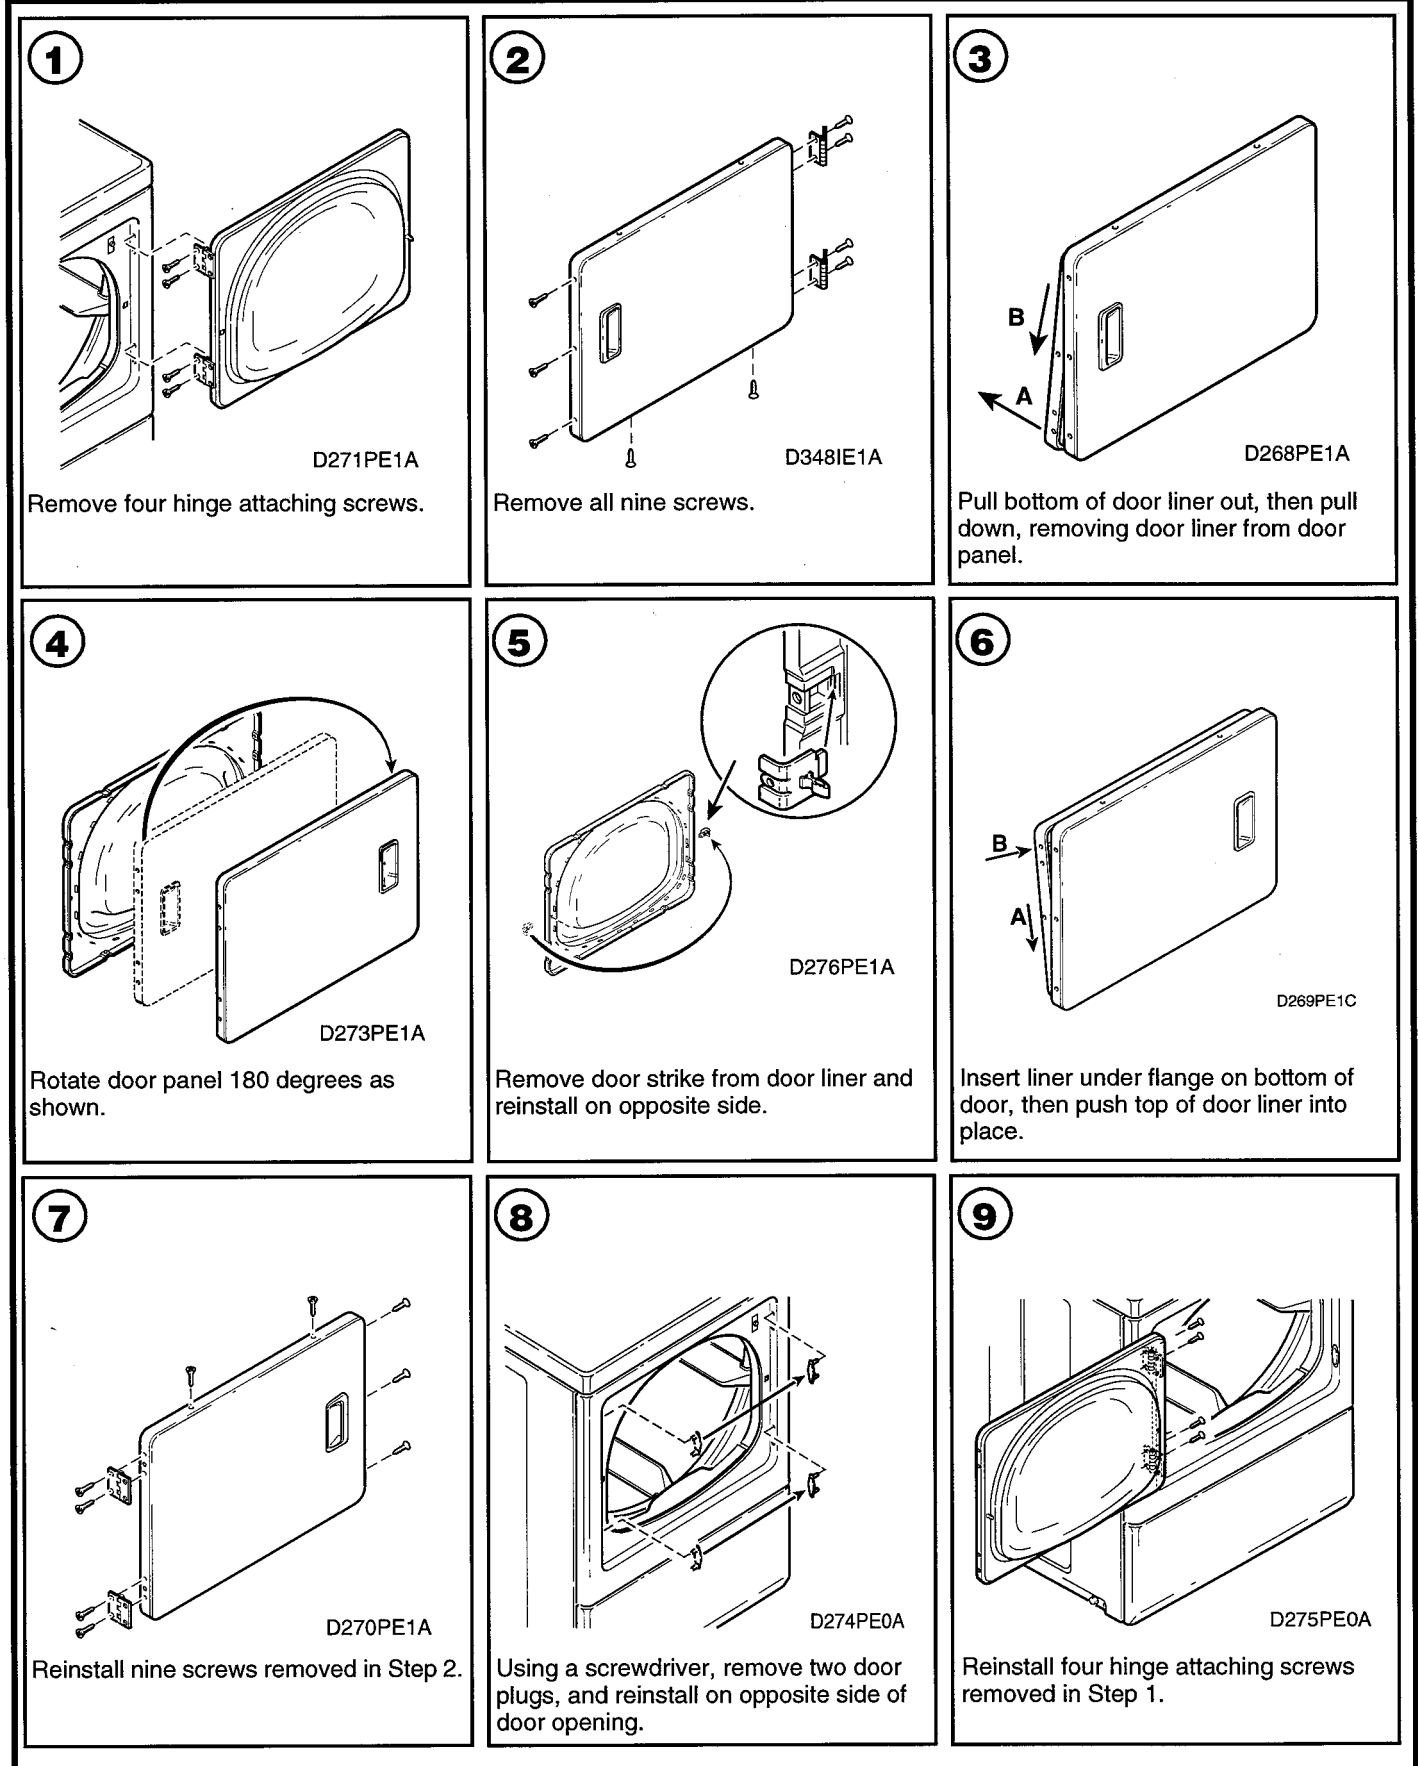

Figure 5-4
- Carefully remove door pull. See figure 5-4.
- Remove remaining screws around the door perimeter and separate panels. See figure 5-4.